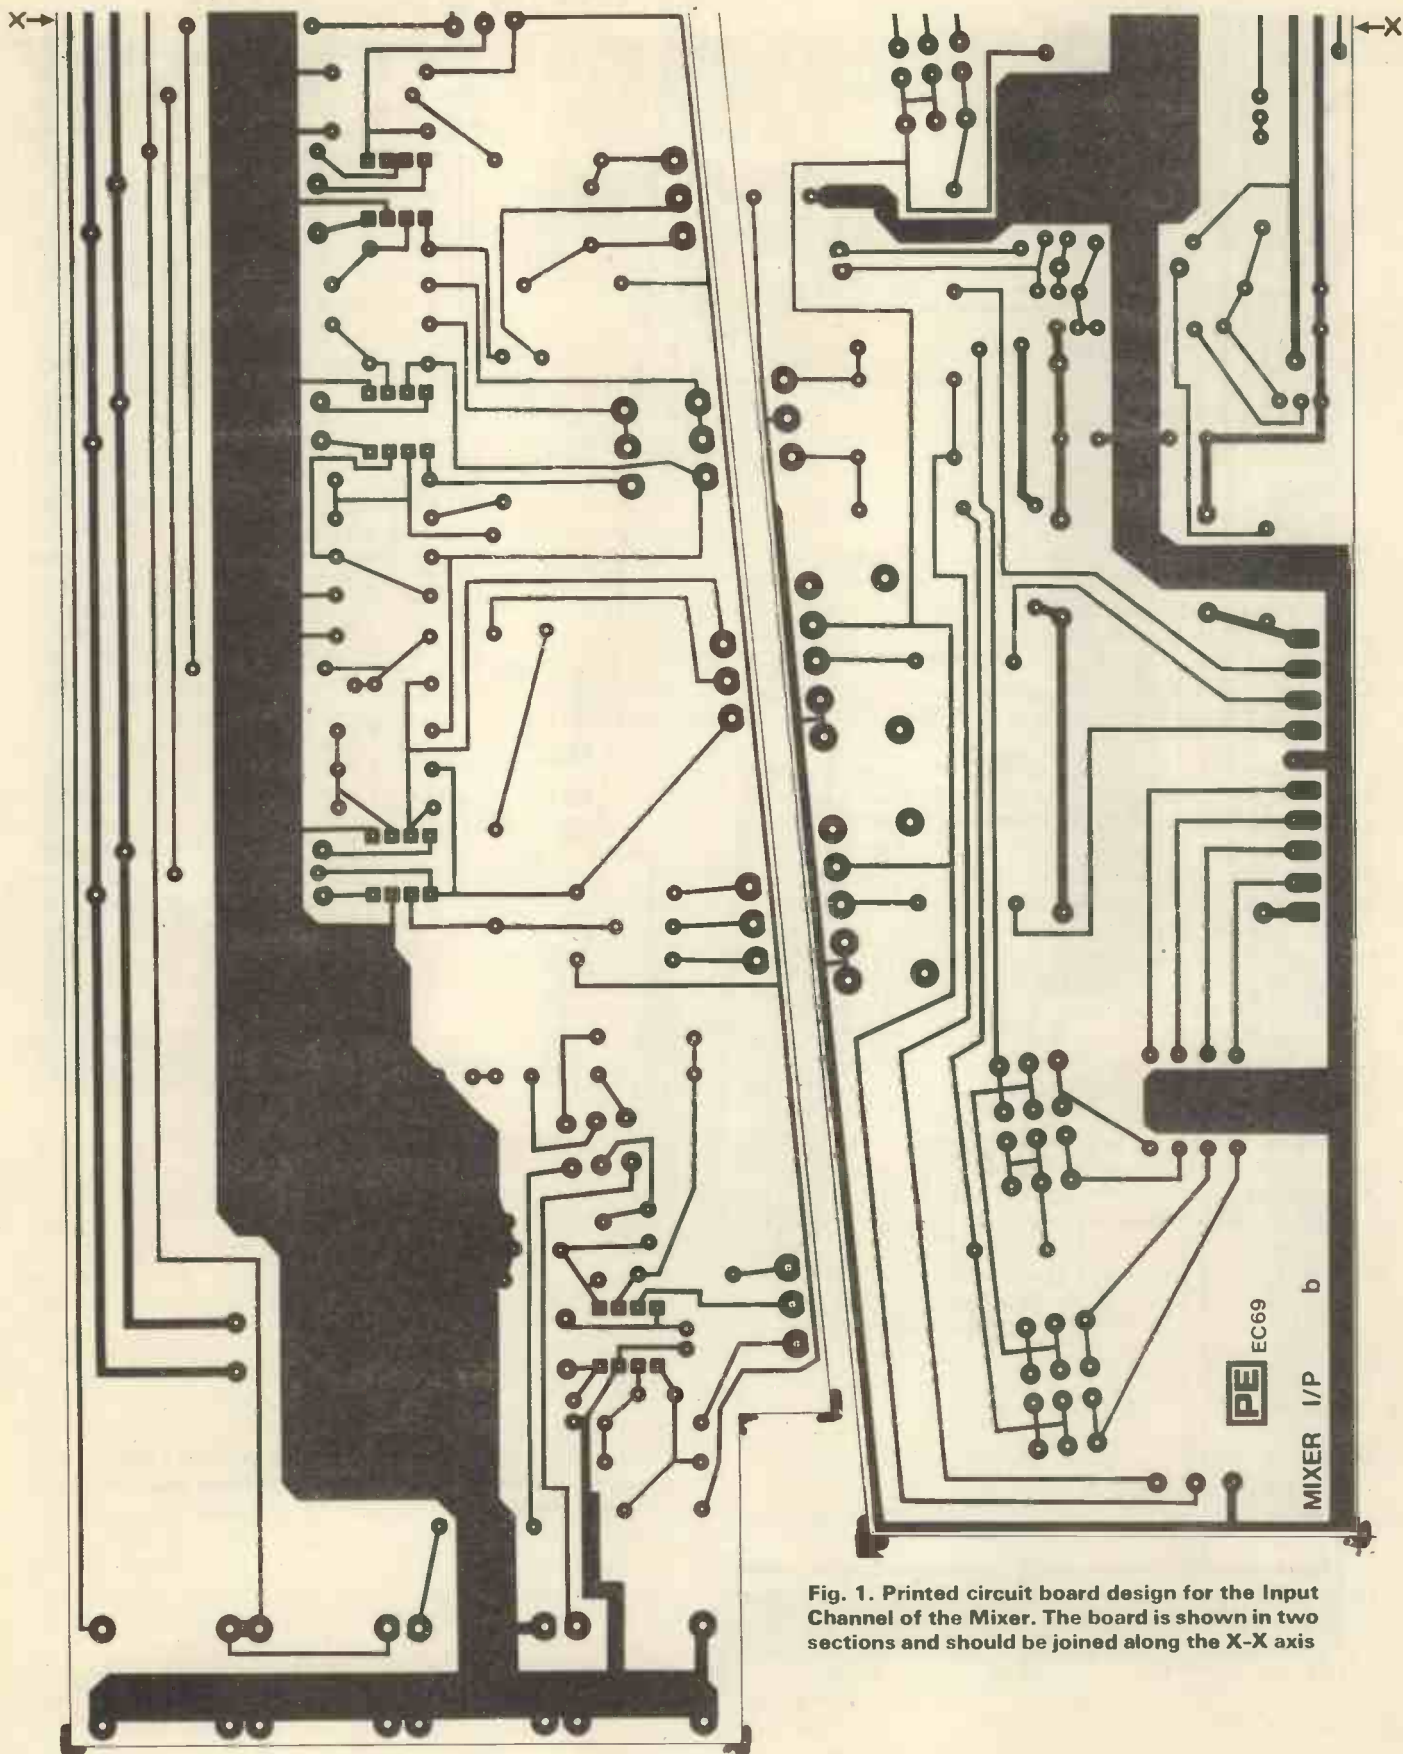
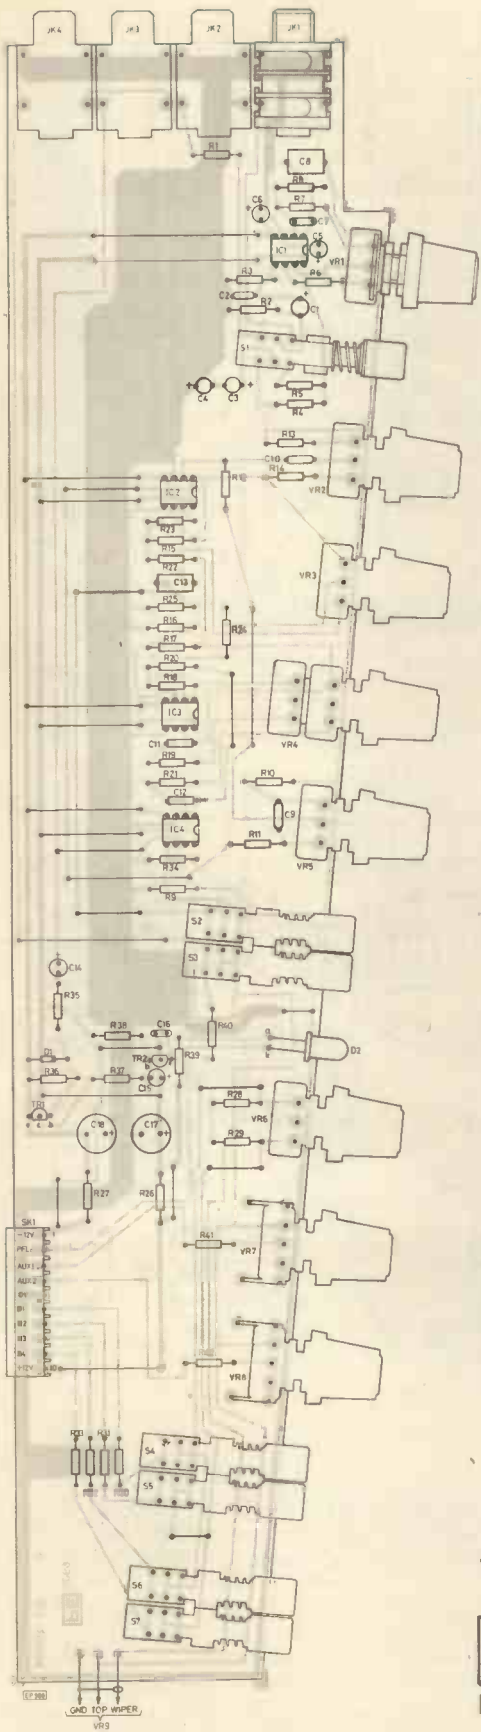

Fig. 1. Printed circuit board design for the Input Channel of the Mixer. The board is shown in two sections and should be joined along the X-X axis
Fig. 4. Component layout for the Input Channel
**T**HE p.c.b. designs for the input, output and auxiliary channels are shown in Figs. 1, 2 and 3 respectively with their component layouts shown in Figs. 4, 5 and 6. Note that the p.c.b.s are shown in two sections and should be joined along the X-X axis making sure that the tracks are aligned properly. Each p.c.b. should be assembled by first fitting the wire licks then the resistors, i.e. sockets, semiconductors and capacitors.